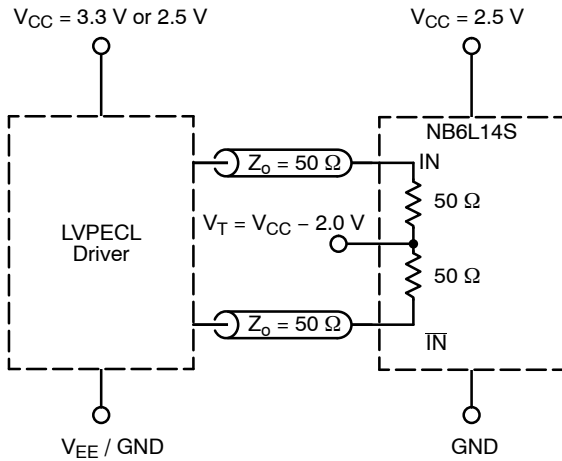

Figure 10. LVPECL Interface
**DIFFERENTIAL INPUTS DRIVEN DIFFERENTIALLY** (Figures 10, 12, NO TAG, NO TAG, 23, and 25)